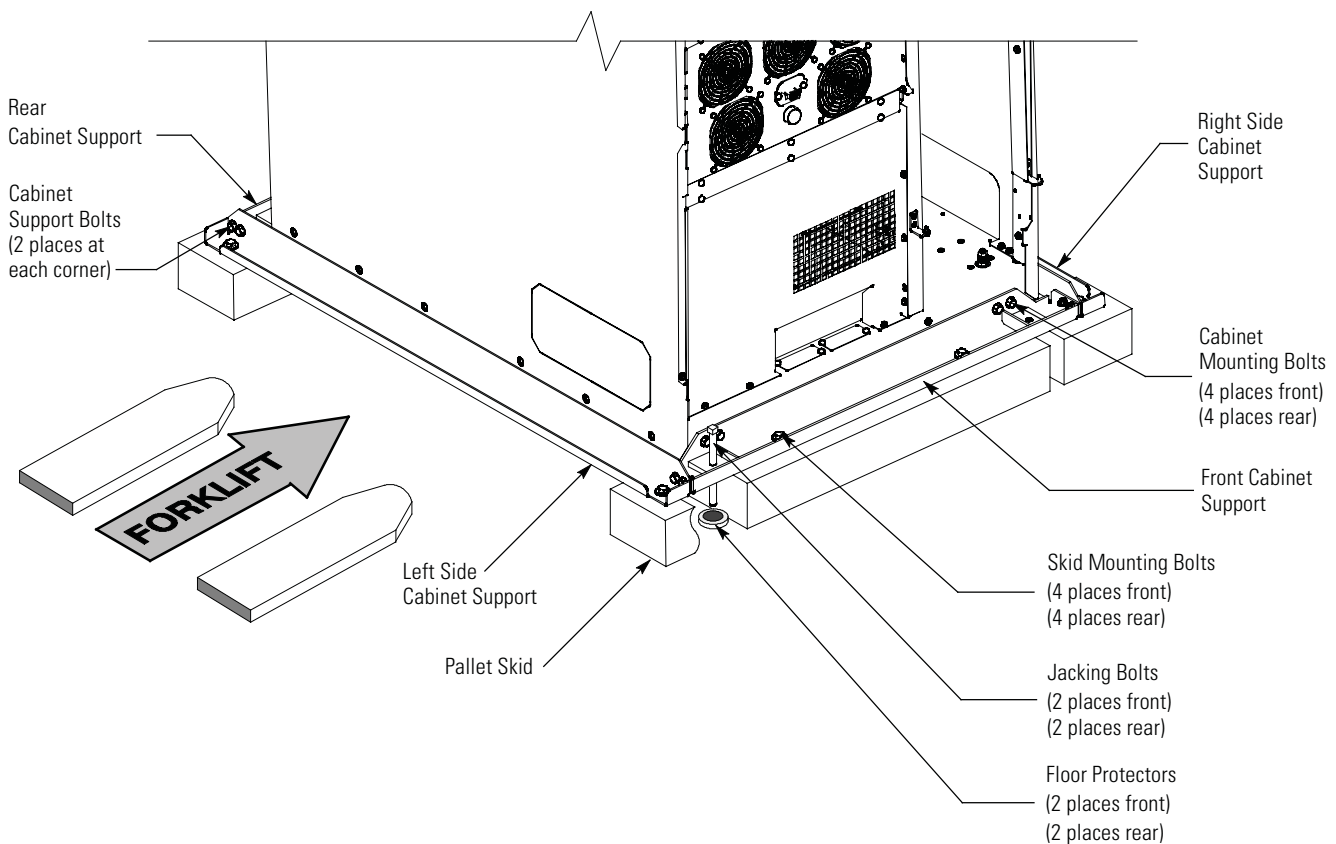
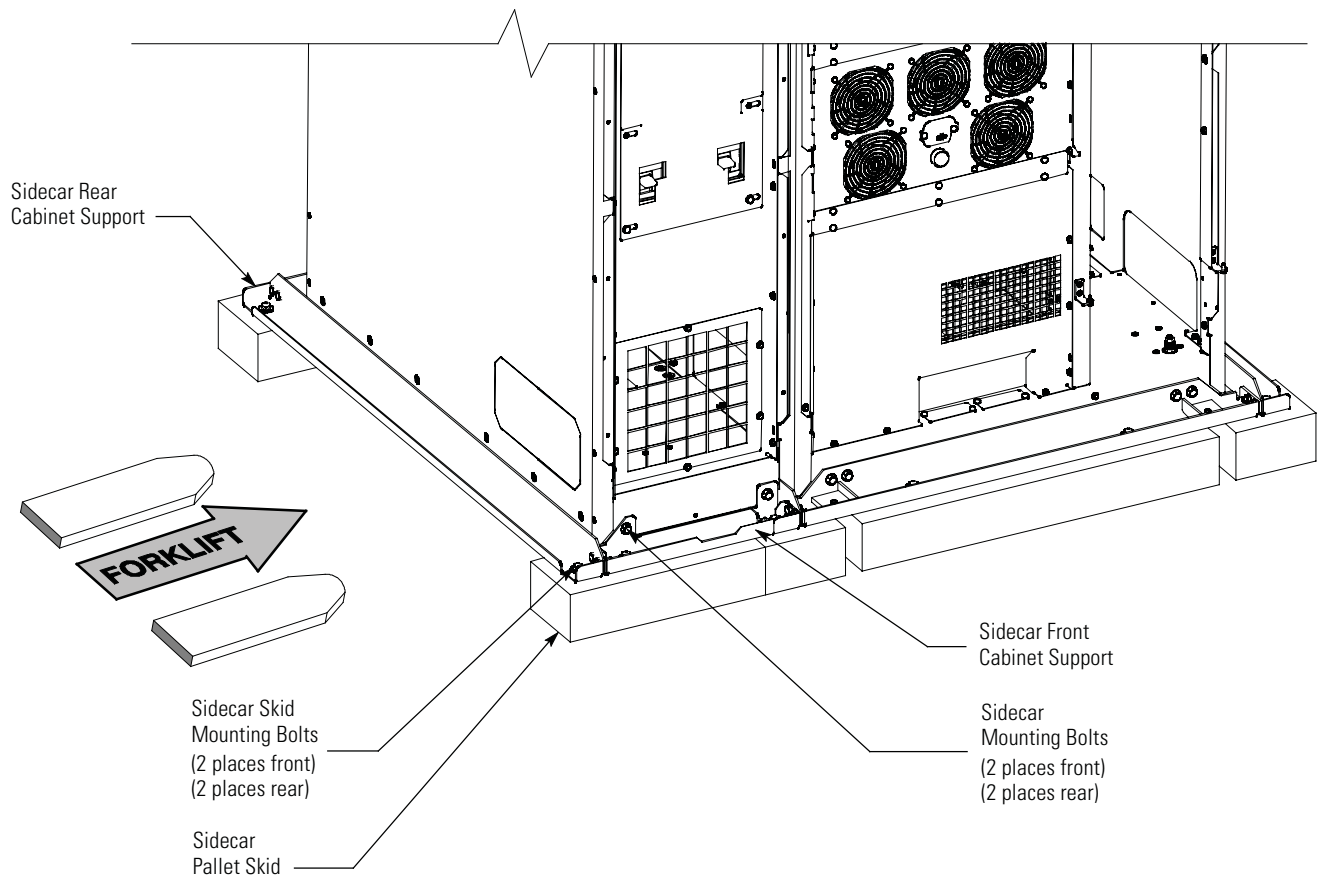

Figure 4-1. Removing the Pallet Skids and Supports – Eaton 93PM UPS
Figure 4-2. Removing the Sidecar Pallet Skids and Supports – Eaton 93PM UPS
5. Locate the four 1/2" jacking bolts from the parts kit and install them in the threaded holes in the front and rear supports as shown in Figure 4-1. Place a floor protector from the parts kit underneath each jacking bolt, and screw the bolts down against them.
6. Loosen, but do not remove, the skid mounting bolts holding the pallet skids to the front and rear supports, and to the left and right side supports (see Figure 4-1).
7. If a sidecar is attached to the UPS, loosen, but do not remove, the sidecar skid mounting bolts holding the sidecar pallet skids to the sidecar front and rear supports, and to the left and right supports (see Figure 4-1 and Figure 4-2).
14. Remove the cabinet support bolts fastening the front, rear, and side cabinet supports together and remove the side supports (see Figure 4-1).
15. If a sidecar is attached to the UPS, remove the sidecar mounting bolts holding the front and rear sidecar supports to the cabinet base (see Figure 4-2).
16. Remove the cabinet mounting bolts holding the front and rear supports to the cabinet base (see Figure 4-1).